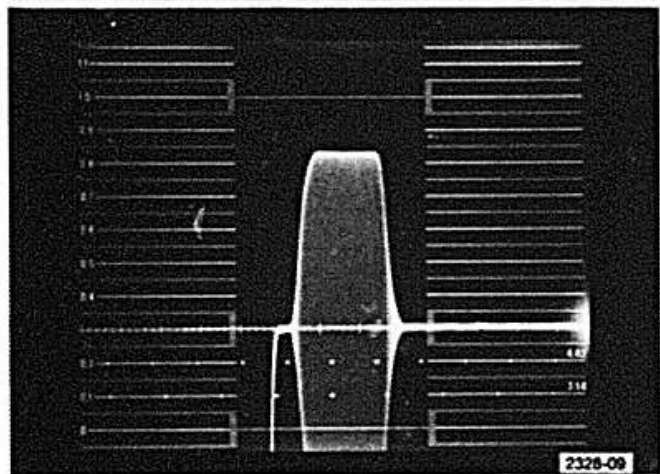

Fig. 2-1. Proper Shaping of the U Burst Envelope.
c. CHECK—for good shaping of the burst envelope. See Fig. 2-1.